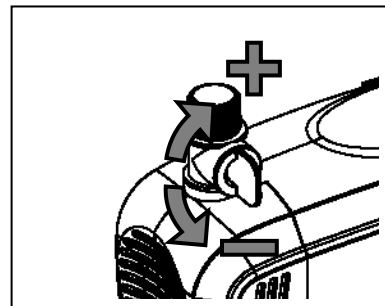

Fig. 6
- Adjust the flow control to the preferred setting. Fig. 6